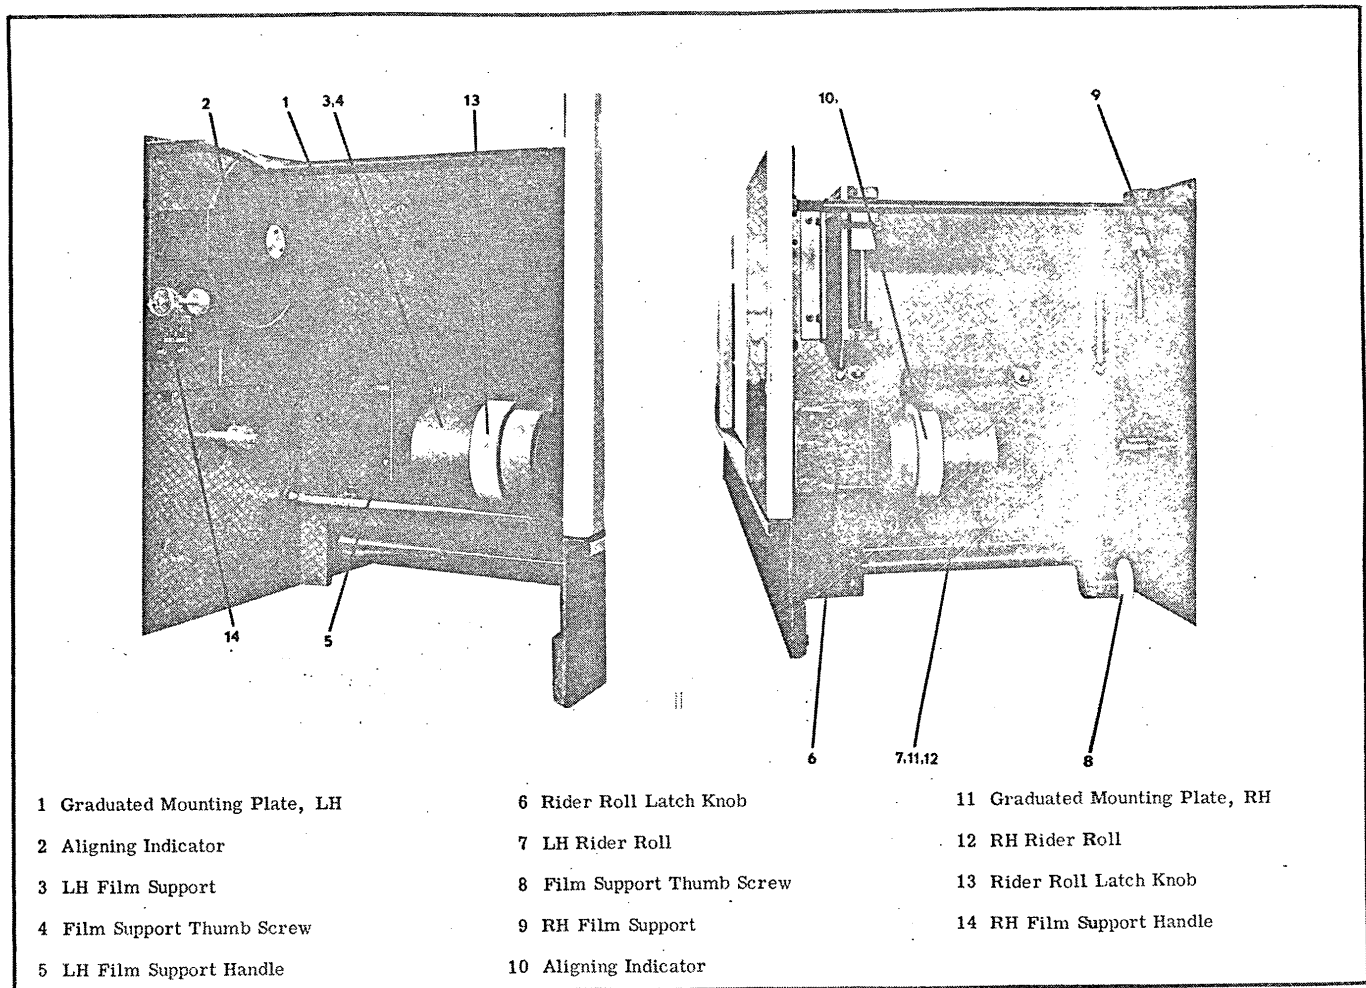

Figure 4-9. Original Film Loading Procedure
b. Loosen thumb screws (4, 8, figure 4-9) and set spool supports (3, 9) on graduated mounting plates (1, 11) aligning indicators (2, 10) with marking for width of film being loaded. Tighten thumb screws (4-8). Proper setting of the spool supports automatically programs the printer for required transport clutch voltage and negative line detector scanning in relation to film width.